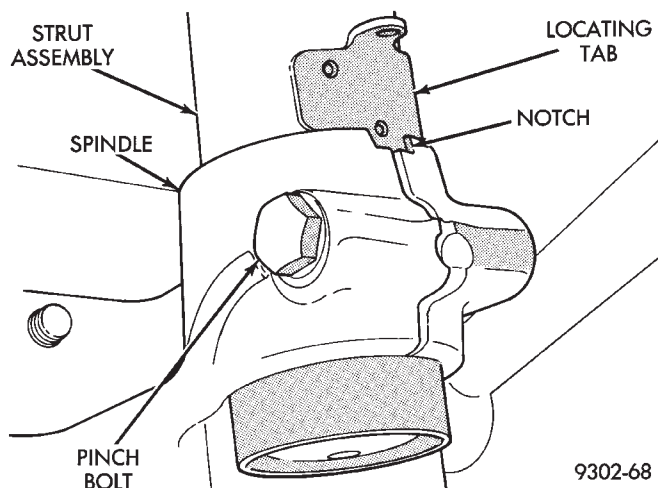

Fig. 10 Spindle Mounted To Strut Assembly
(1) Position strut assembly back into vehicle with the 3 studs on strut mount assembly through holes in strut tower of vehicle. Install the 3 strut mount to body attaching nuts onto mount studs. Torque the 3 strut mount to body attaching nuts to 28 N•m (20 ft. lbs.).
(2) Install the spindle assembly onto the bottom of the strut assembly. Push and or tap spindle assembly onto strut, until notch in spindle is tightly seated against locating tap on strut assembly (Fig. 10). Then remove center punch from hole in spindle. Install spindle to strut assembly pinch bolt into spindle (Fig. 10). Torque spindle to strut assembly pinch bolt to 55 N•m (40 ft. lbs.).